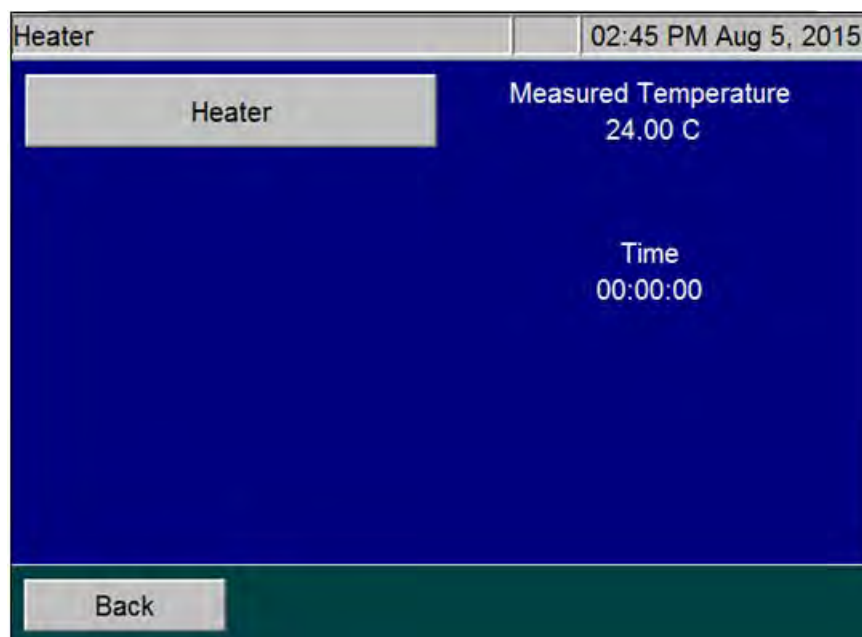

Figure 115: The Heater Screen
2. To start the test, press the **Heater** button (Figure 115). The button turns orange, the heater powers on, and the system begins going through its programmed heating and cooling profile.